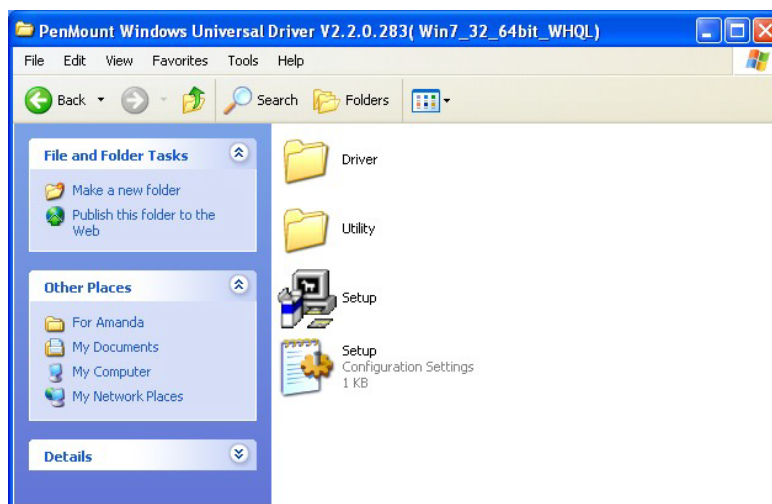

Figure 7-1: Setup Icon
Step 9: Select the **Touch Screen** option in the menu of driver CD. The directory in **Figure 7-1** appears.
Step 10: Double click the setup icon in **Figure 7-1**.